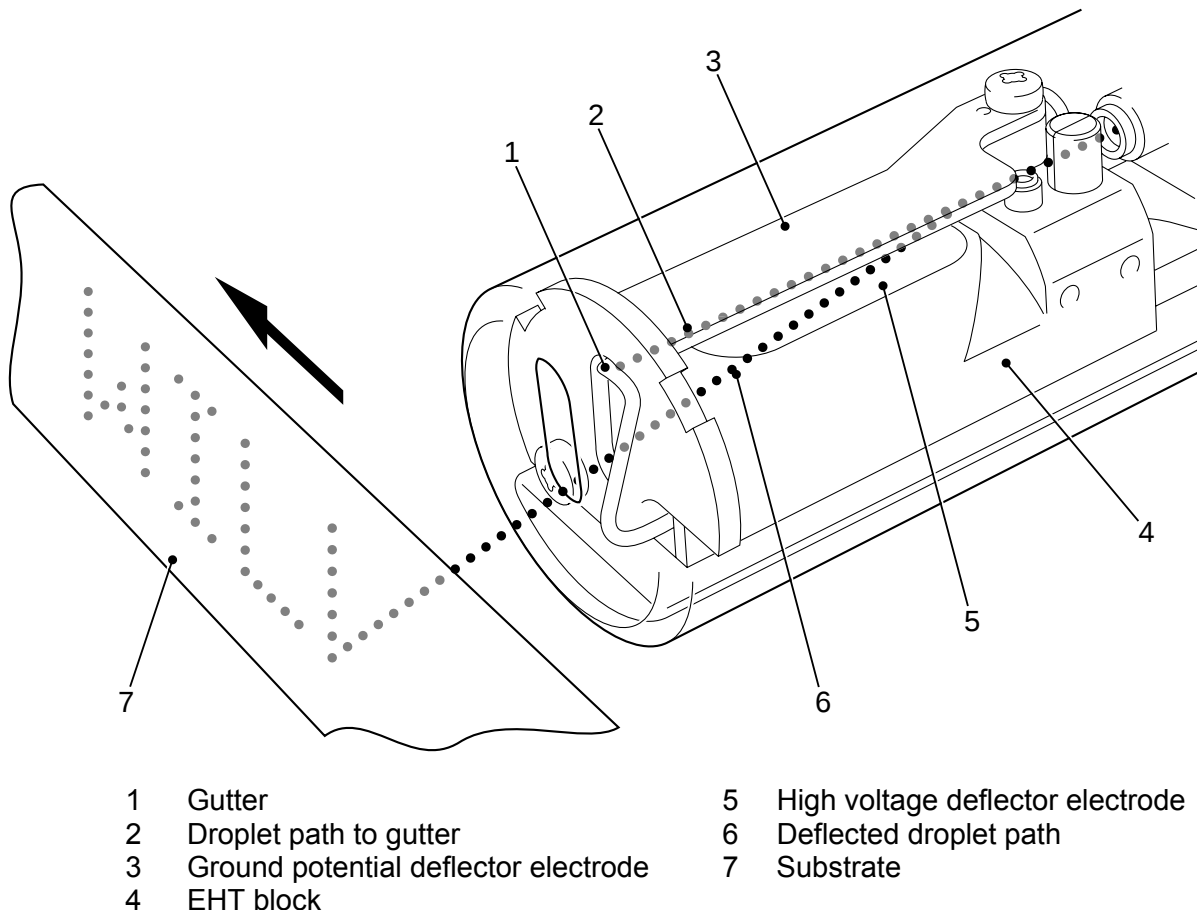

Fig 10.27 Droplet deflection
- 56** After passing through the charge electrode the droplet stream passes through an electrostatic field maintained by the deflector electrodes which are connected to a high tension supply (typically 6 kV). The negatively charged droplets are deflected by the field towards the high voltage deflector electrode (Fig 10.27 (5)). The distance a drop is deflected is proportional to the charge carried, which is in turn proportional to the voltage applied to the charge electrode when the drop became detached from the ink jet.